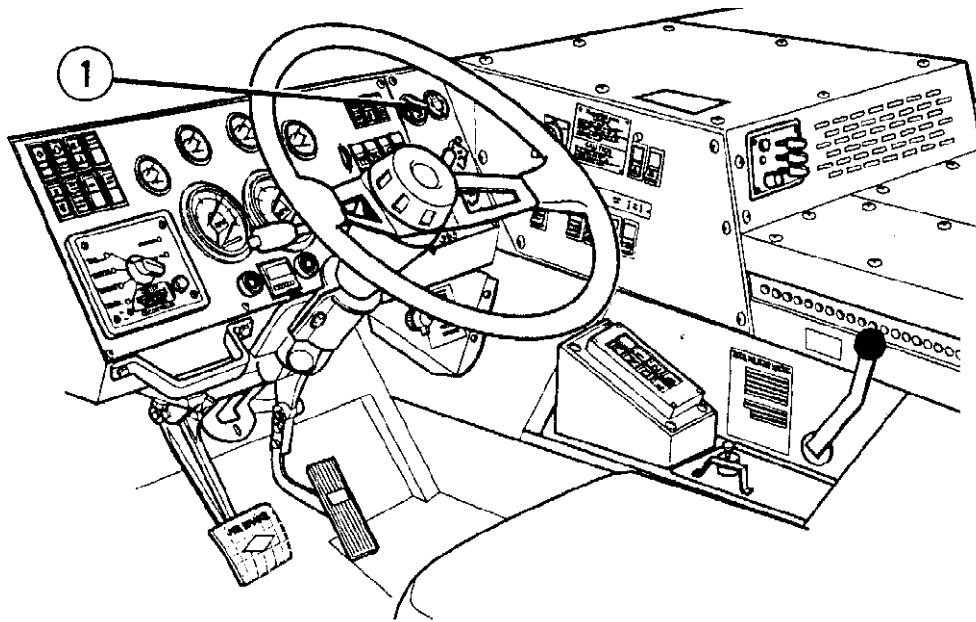

Figure 12. 9 Air filter Restriction Indicator
12.3.2.2 Check the air filter restriction indicator (Figure 12. 9. (1)) often.